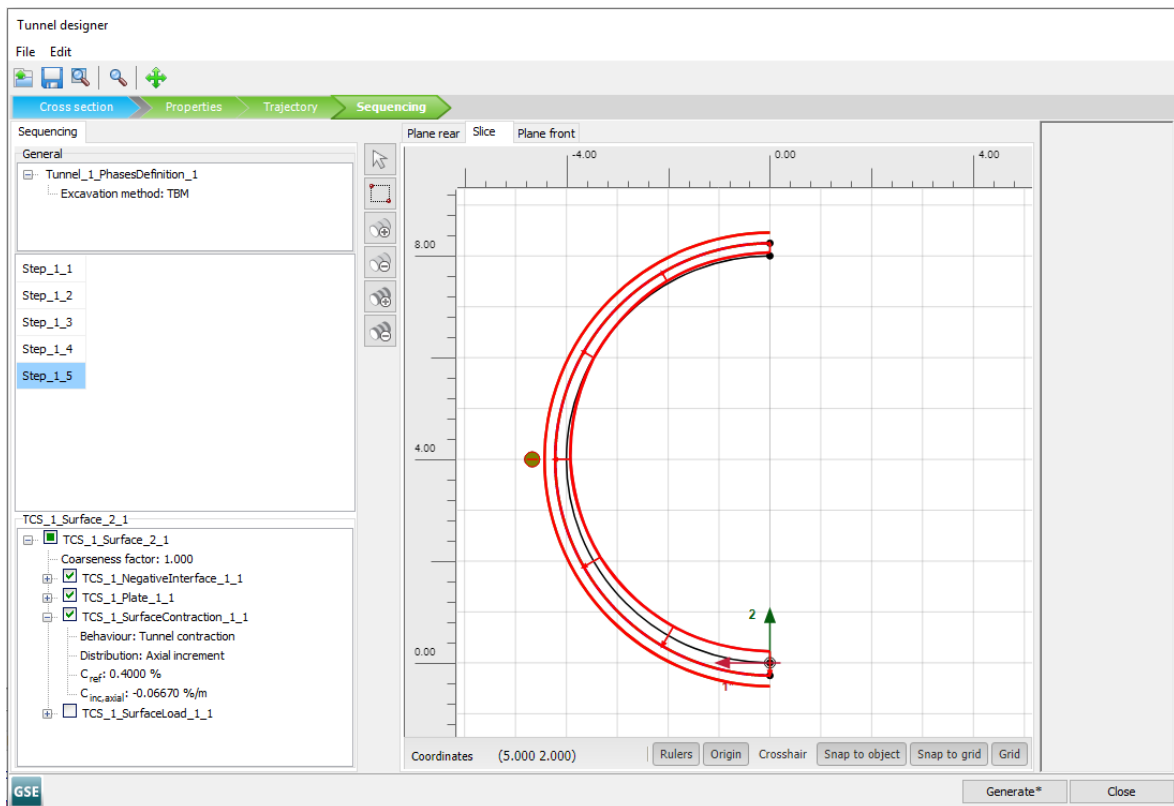

Figure 75: Slice tab Tunnel designer <Step_1_3 to Step_1_5>Definition of surface contraction
-  Click on the **Add Step** button three times to add three new steps. These steps are necessary to define the remaining cone part of the TBM shield (Figure 75 (on page 101)).
Step_1_5: $C_{ref} = 0.4\%$, see Figure 75 (on page 101)